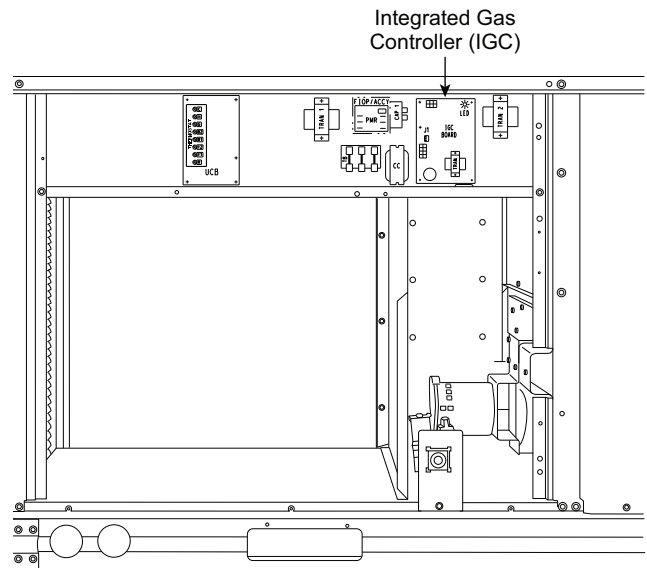

Fig. 59 — Unit Control Box/IGC Location
8. Remove igniter wires and sensor wires at the Integrated Gas Unit Controller (IGC). (See Fig. 59.)
Unit is equipped with a direct spark ignition 100% lockout system. The Integrated Gas Unit Controller (IGC) is located in the control box (see Fig. 59). The IGC contains a self-diagnostic